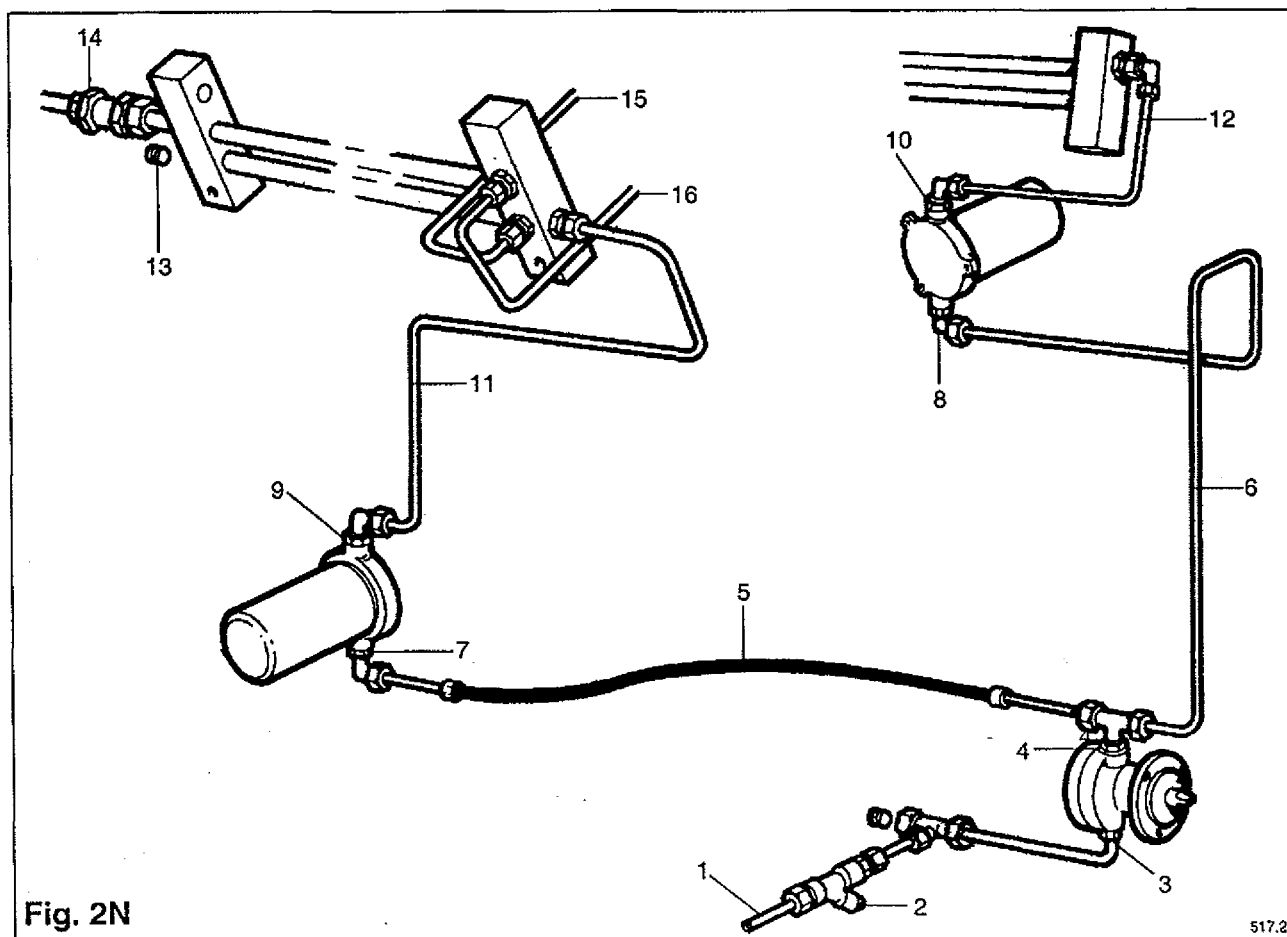

Fig. 2N
After flowing through the fuel filter (see above) the fuel flows via the filter outlet connections (9) and (10) and the feed pipes (11) and (12) to the fuel rails (see Fig. 2N / 3N).
Key (Fig. 2N)